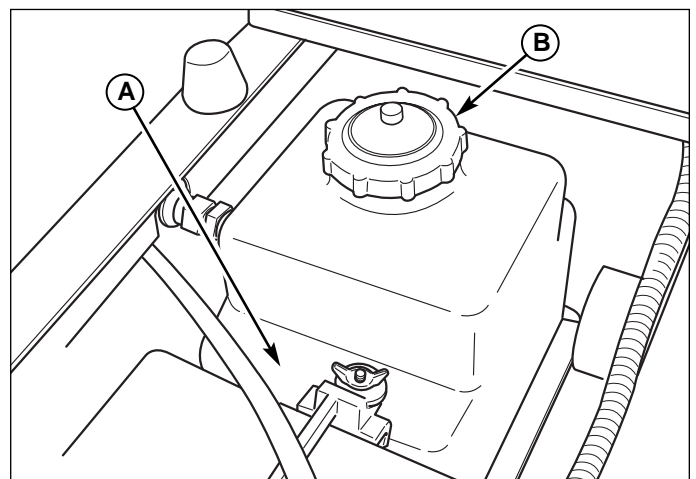

Figure 18. Hydraulic Oil Reservoir
1. Visually check that the hydraulic oil level is filled to the recess area (A, Figure 18) of the hydraulic oil reservoir.
3. If necessary, remove the reservoir cap (B, Figure 18) and add either Mobil 1™, 15W-50 synthetic oil or Castrol Syntec™ 5W-50 oil. **DO NOT** use conventional oils. Make sure area around the filler neck is free of dust, dirt, or other debris.